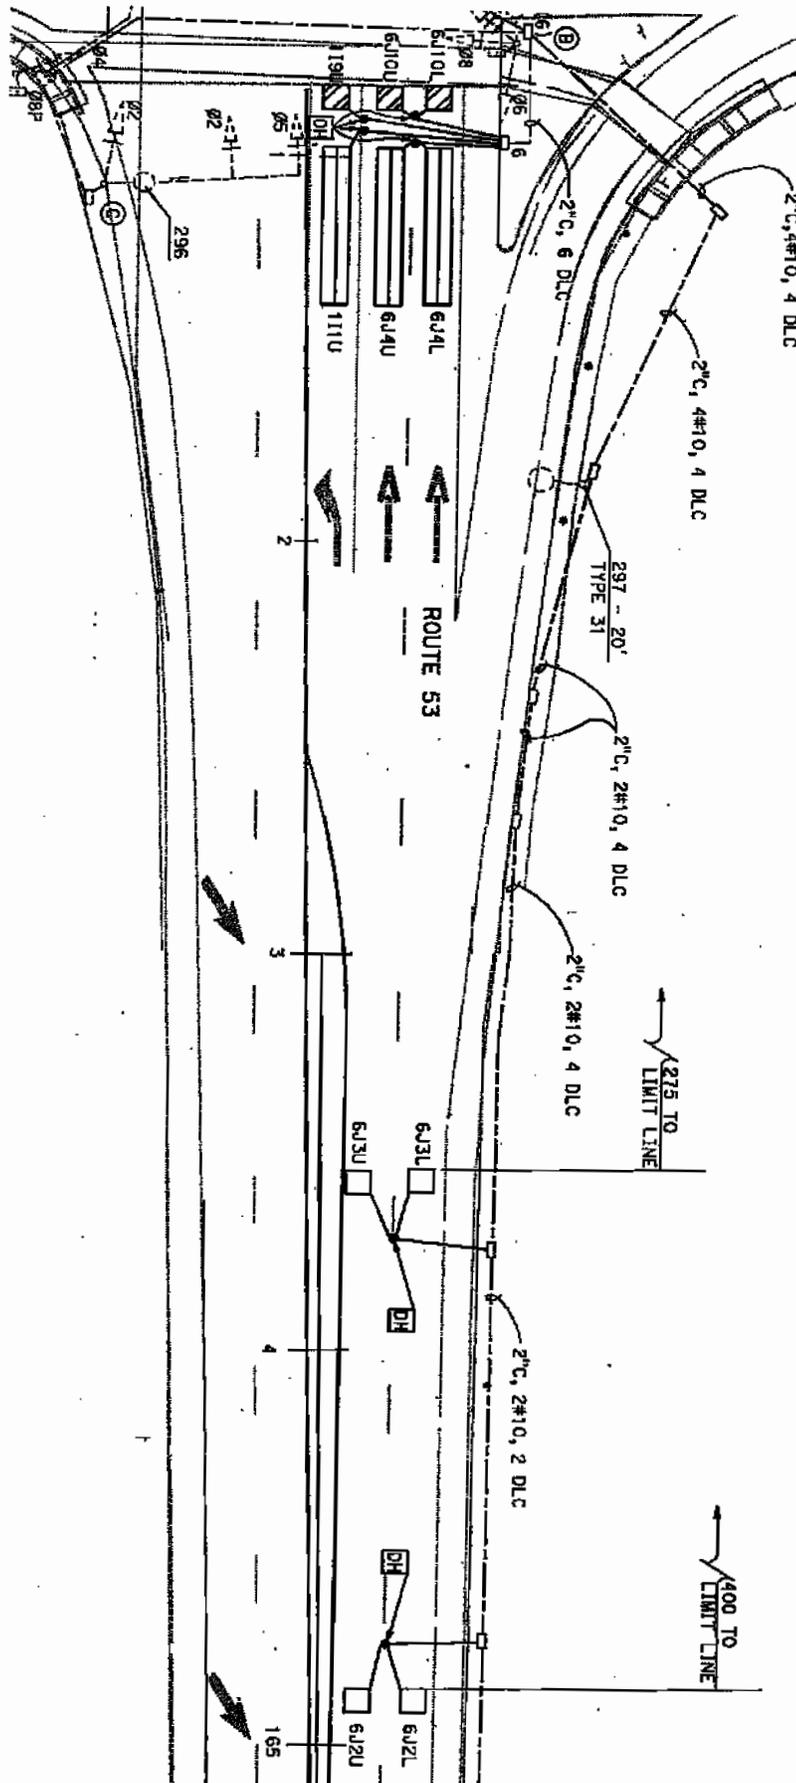

Figure 2 – Type D Loop Detectors at Limit Line with Type C Loop Detectors
3. The Type D loop may be wired with its own detector lead-in-cable as a separate circuit, with a Type C loop detector (see Standard Plan ES-5B) that is also connected with its own lead-in-cable. Loop detectors installed in the traffic lane behind the limit line detector should be wired to separate detector channels. The detector card should be set to high enough sensitivity to ensure bicycle detection. District Design or Operations staff will need to provide Construction the electrical details. This configuration may be appropriate if there are few lanes in the intersection and the number of detector channels is not an issue. See Figure 2 for a typical configuration of a Type D limit line detectors with Type C detectors